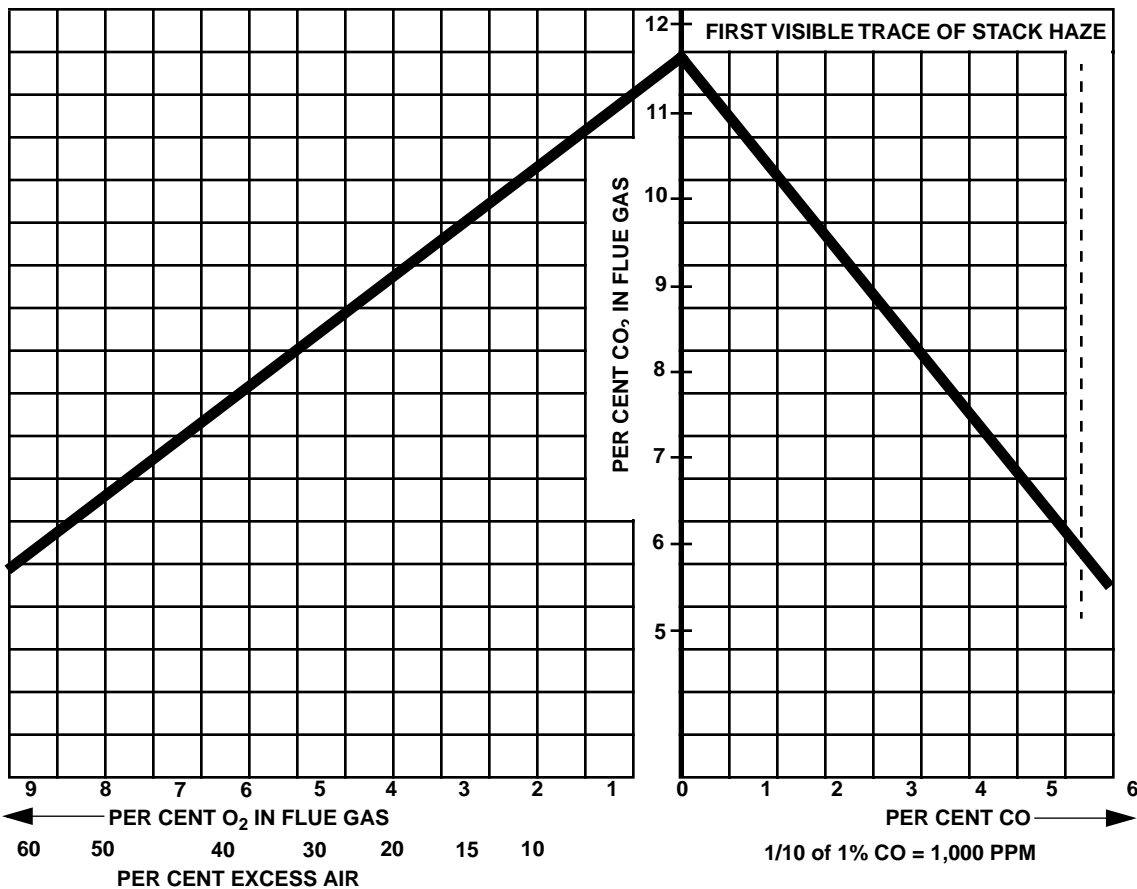

Figure: 6-9 Flue Gas Analysis Chart for Natural Gas
atmospheric conditions, and to ensure the combustion is on the proper side of the combustion curve (See Figure 6-9).
It's important to understand what the readings shown on an instrument refer to when setting combustion in a boiler. To assist with this understanding Figure 6-9 shows the relationship between  $O_2$  levels (excess air) and the products of combustion for a typical flue gas analysis (natural gas).
**There must always be excess air in the combustion process to account for changes in boiler room conditions and to ensure the combustion is on the proper side of the combustion curve (See Figure 6-9).**